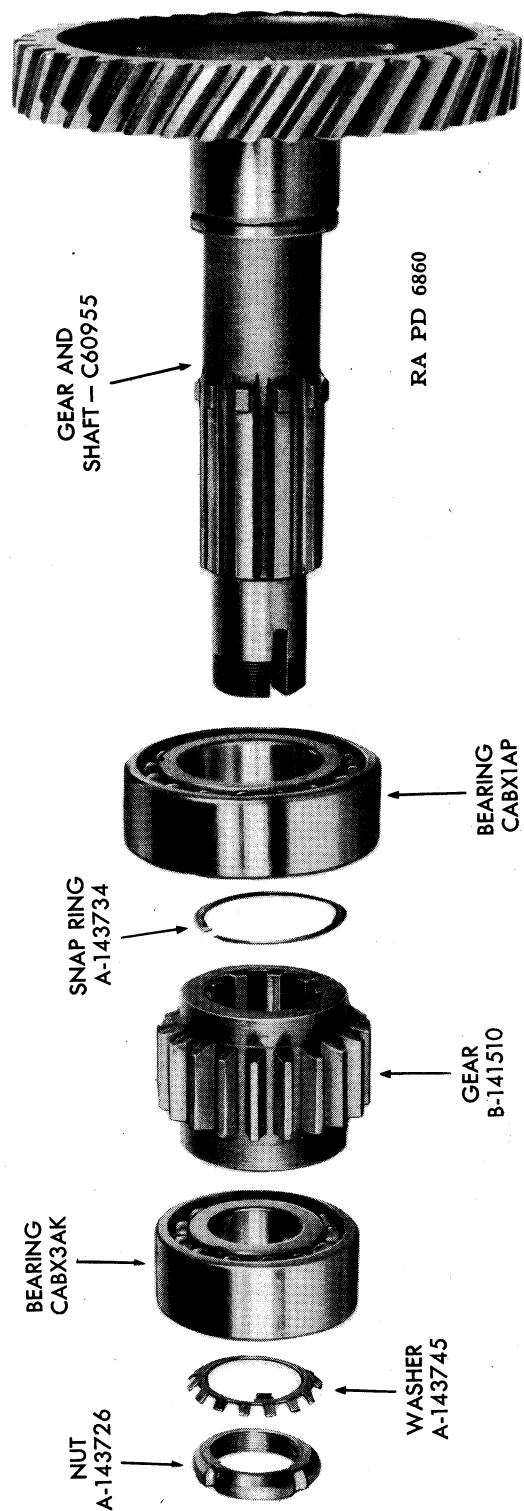

FIGURE 52—Parts of reverse gear shaft assembly.
22. Reverse gear shaft with bearings (fig. 52).—This SHAFT (C60955) was removed from the transmission with BEARING (CABX1AP), snap RING (A143734) and reverse idler GEAR (B141510) in their respective positions on the shaft.
b. Inspection (fig. 52). — Clean gears and shaft carefully with clean solvent. Wash and inspect bearing as described in paragraph 25. Examine gear teeth for signs of fracture or actual breaks, or chipping. Check the reverse idler on the shaft spline and note whether it is a tight fit. If loose on the spline replace the gear or shaft or both as needed. Check the bearing seats on the shaft for signs of abrading. If shaft is roughened at these points replace shaft and examine bores of bearings to insure that the inner rings of the bearings are not abraded and have not been turning on the shaft. If abrasions are present replace the bearing.